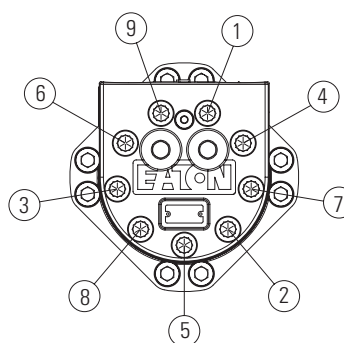

Figure 5
22. Carefully invert end cap and place onto valve plate. Make sure that shuttle flow cavities are aligned. Install nine cap screws lubricated with DTE-26/DTE-24. Pre-torque each in a crisscross pattern to 80 ± 10 lb-ft. Finally, in a crisscross pattern, tighten screws to 135 ± 5 lb-ft. (See Figure 5)